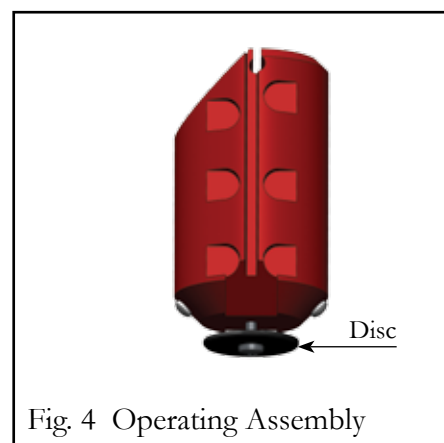

Fig. 4 Operating Assembly
2. Unscrew the Operating Valve Body (2).
3. Remove the Clamping Stem (4) and the Operating Assembly (5). Wash the inside of the Body, the Clamping Stem, the Operating Assembly, the Rolling Seal (3), and the O-ring (7) with clean water.
7. The disc at the bottom of the Operating Assembly (Fig. 4) should be loose and move freely. **Do not tighten the holding screw.**